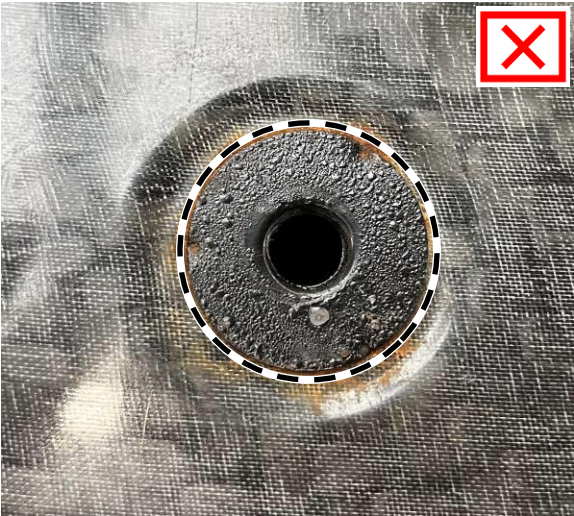

Figure 3, **not OK**
**i** Figure 3 → Metal inserts are corroded (**not OK**)
- a. Metal inserts are **severely corroded** (figure 3): Perform **work procedure A**.